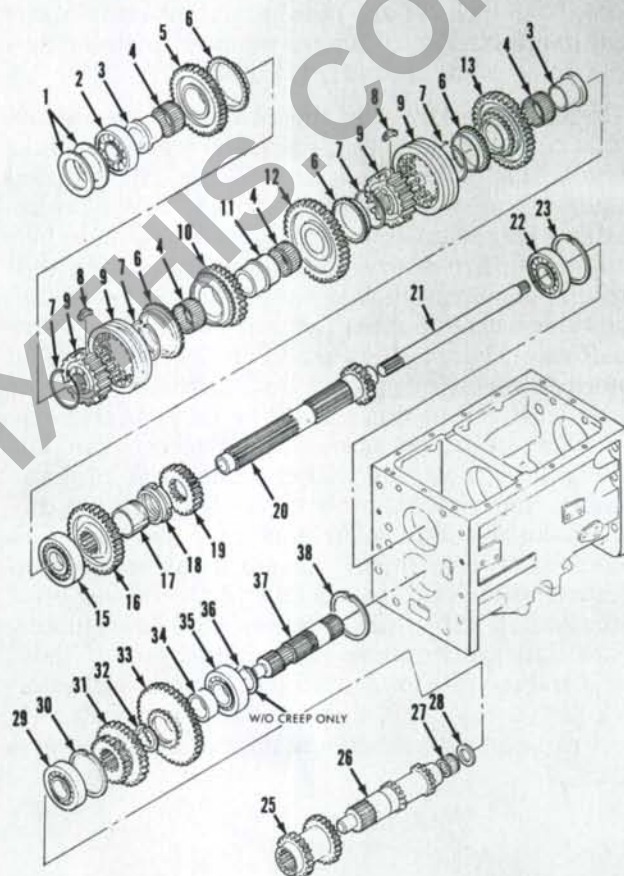

Fig. 201—Exploded view of main and range transmission gears and shafts used on Model 2120 equipped with hydraulic shift shuttle transmission.
Remove snap ring (23—Fig. 201) from rear of transmission housing. Drive transmission countershaft (20) rearward from housing while removing synchronizer assemblies, gears and spacer collar (3 through 19) from front of shaft. Place matching marks on synchronizer sleeve and hub (9) prior to disassembling synchronizer units.